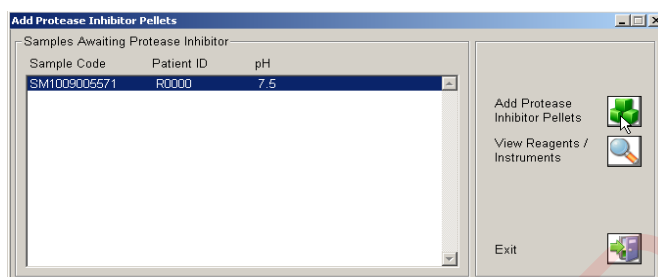
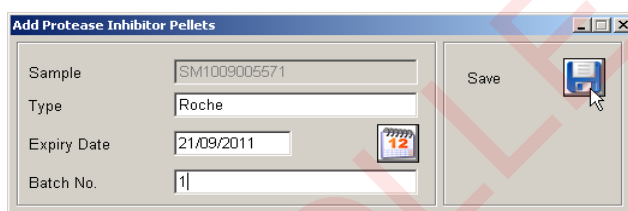

Figure 25 - **'Add Protease Inhibitor Pellets'** screen
Figure 26 – **'Add Protease Inhibitor Pellet'** batch control screen
14. The **'Add Protease Inhibitor'** icon should be selected from the Sample Lifecycle Workflow , the **'Add Protease Inhibitor Pellet'** Screen (Figure 25), will appear. Select sample and select the Protease Inhibitor Pellets icon . The **'Add Protease Inhibitor Pellets'** batch control screen will appear (Figure 26). Complete the table and click on the **'Save'** icon .